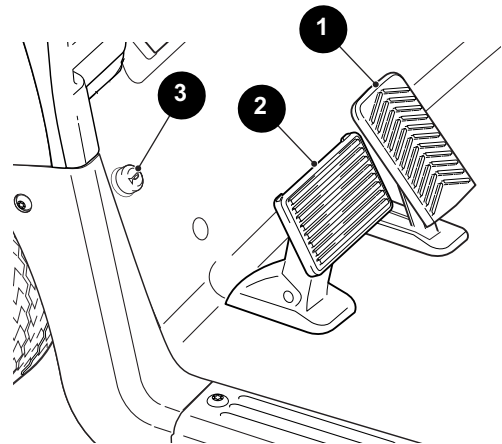

Figure 2 Accelerator and Brake Pedal Operation
With the key switch in the F (forward) or R (reverse) position, press the accelerator pedal (1), which starts the motor and the vehicle moves in the direction indicated on the key switch/direction selector. This vehicle is equipped with motor brake. When the accelerator pedal is released, the motor will stop. To stop the vehicle quickly, press the brake pedal (2) (Figure 2).
If the vehicle is equipped with a horn, the horn button (3) is located on the driver's side of the floorboard. Pressing the button (3) will sound the vehicle's horn (Figure 2).